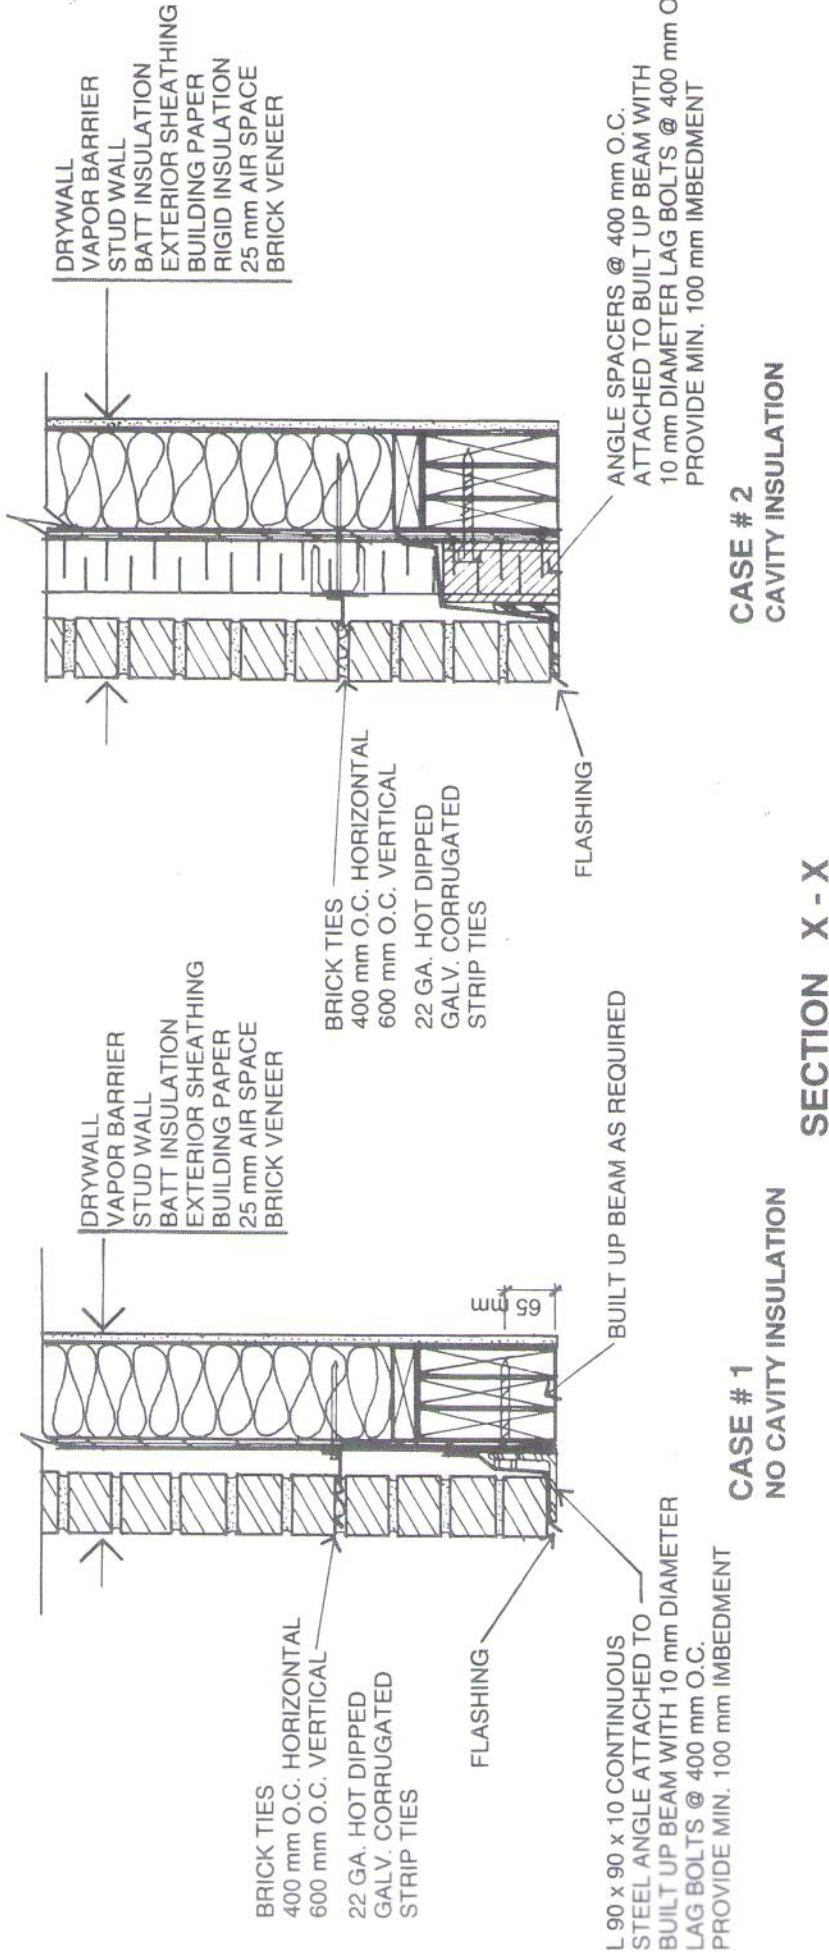

Figure 3 Typical brick angle support detail for garage opening
- Figure 3 Typical brick angle support detail for garage opening